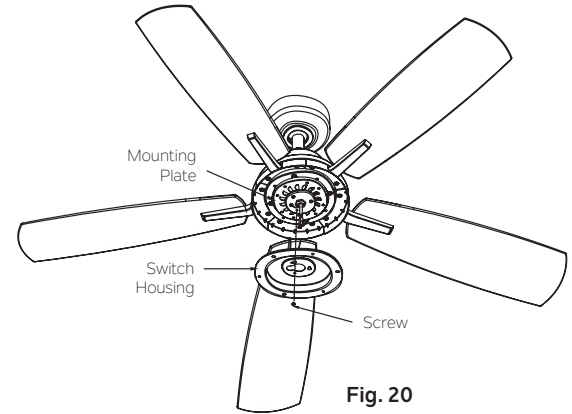

Fig. 20
**Step 1.** Remove the screw marked with a dot label which is preinstalled on mounting plate and keep for later use. Loosen the other two (do not remove). Place the two slot holes on the switch housing over the 2 screws previously loosened from the mounting plate. Rotate the switch housing until it locks in place at the narrow end of the key holes. Secure by tightening the 2 screws previously loosened and the one previously removed. (Fig. 20)